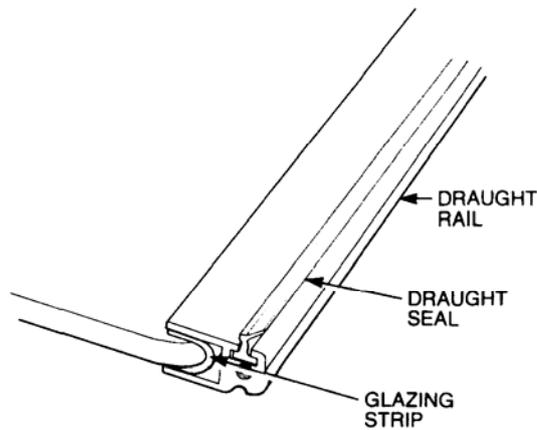

Figure 45 Draught Rail Removal
- j. Remove the draught rail seal by pulling it out of the groove (refer Figure 45).
- v. Lubricate the draught rail seal with the soapy solution and fit the draught seal (refer Figure 45).